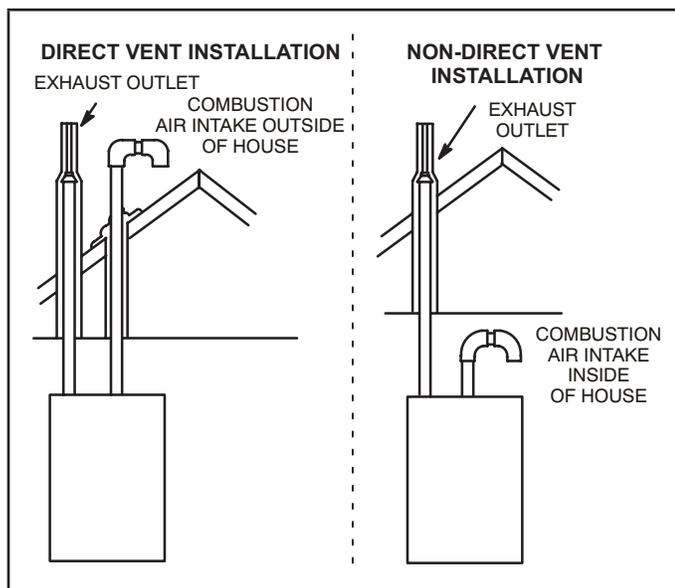
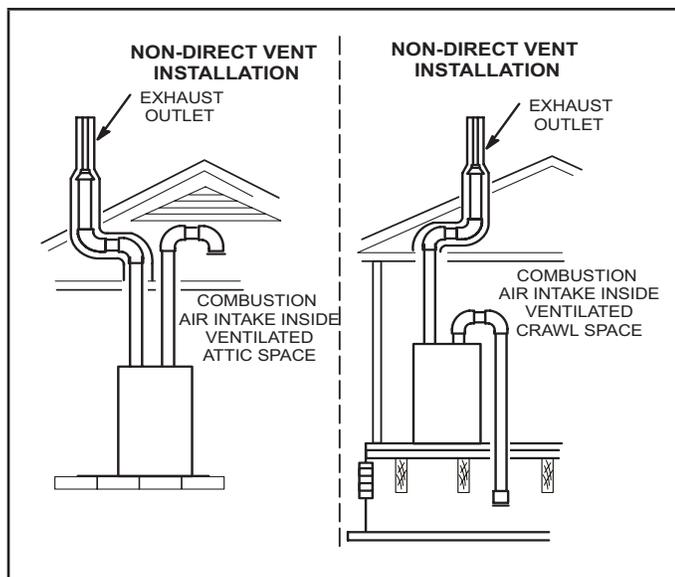

FIGURE 1
FIGURE 2
**NOTE - In Direct Vent installations, combustion air is taken from outdoors and flue gases are discharged outdoors. In Non-Direct Vent installations, combustion air is taken from indoors or ventilated attic or crawlspace and flue gases are discharged outdoors. See "FIGURE 1" and "FIGURE 2" for applications involving roof termination.**